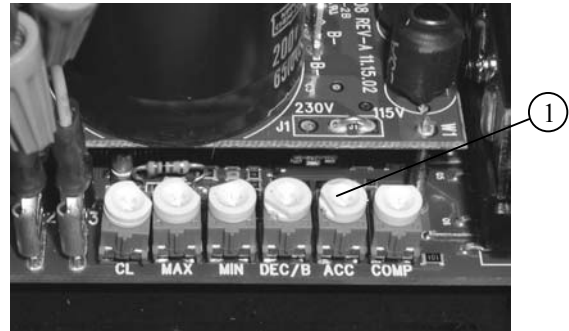

Figure 10
Acceleration (Figure 10, item1)